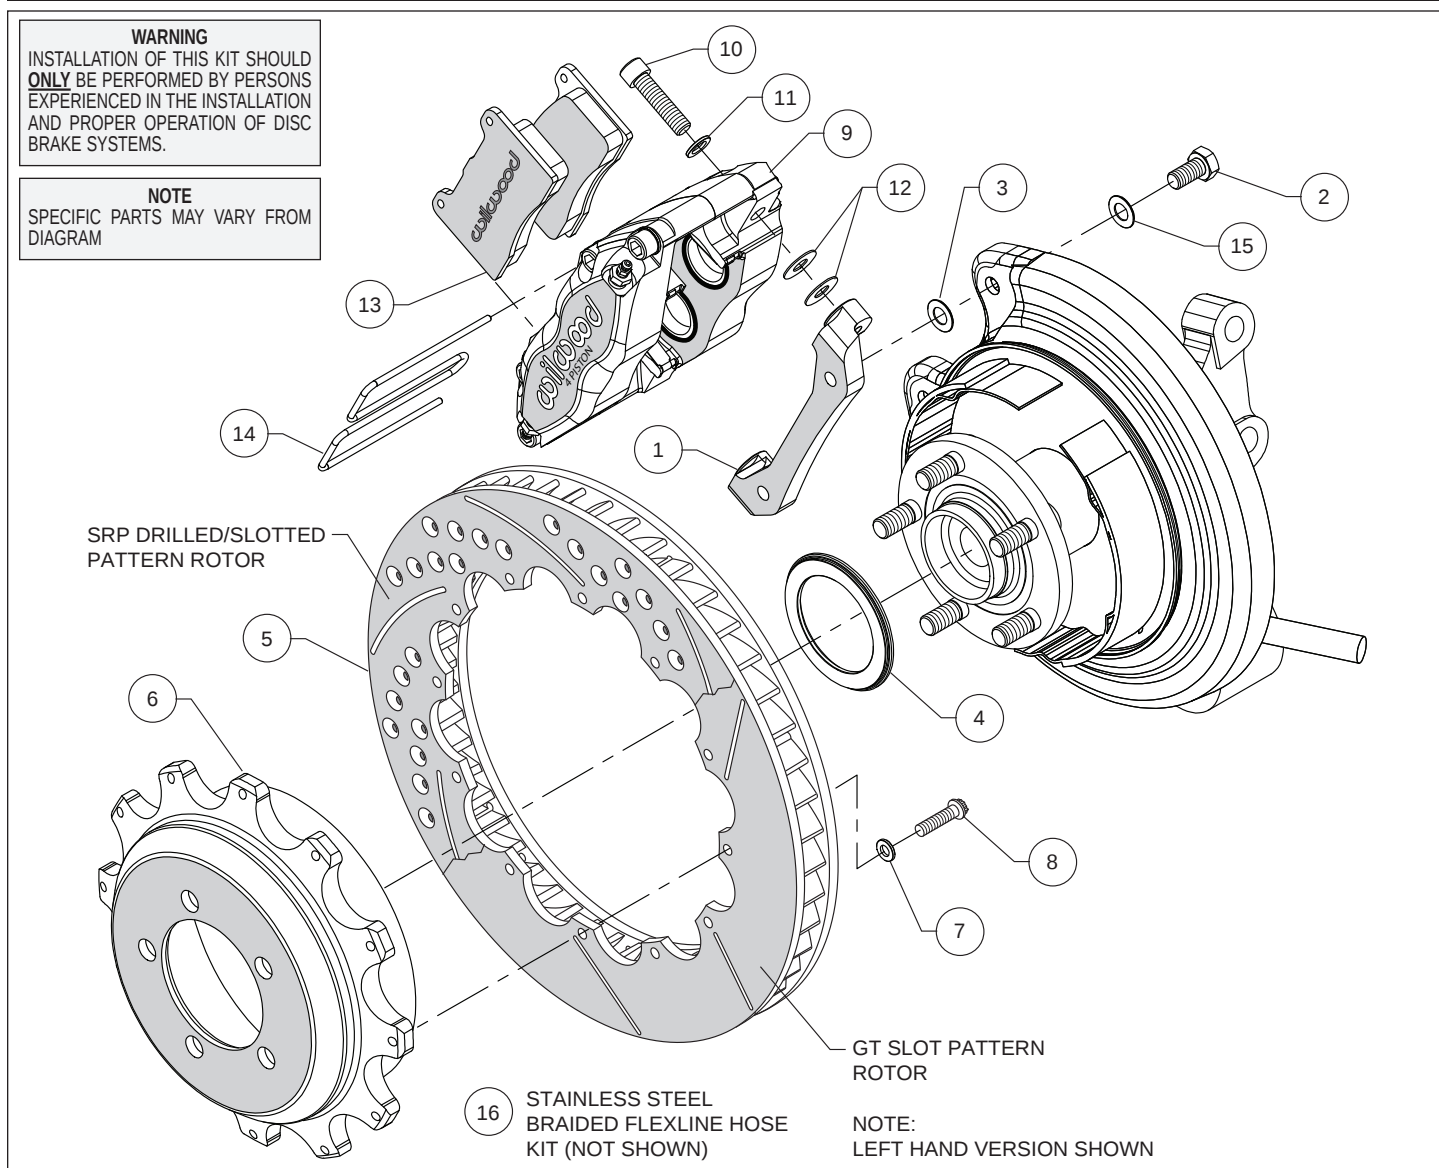
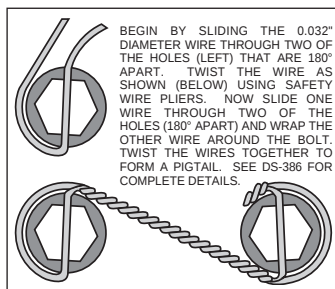

Figure 1. Typical Installation Configuration
Figure 3. Safety Wire Diagram
Assembly Instructions (numbers in parenthesis refer to the parts list and Figure 1 on the preceding pages):
- The caliper mount bracket (1) should initially be installed with clean, dry threads on the mounting bolts. Orient the bracket as shown in Figure 1 and Photo 3, and install using washers (15) and bolts (2). Initially place one shim (3) on each bolt between the bracket and upright, Figure 1. Temporarily tighten the mounting bolts. **NOTE: The bracket must fit squarely against the mount bosses on the upright.** Inspect for interference from casting irregularities, machining ridges, burrs, etc. Later, after the caliper alignment has been checked, the mount bolts will be secured using red *Loctite*® 271.
- Orient the rotor (5) and the hat (6) as shown in Figure 1 and Photo 4. Attach rotor to hat using bolts (8) and washers (7). Using an alternating sequence, apply red *Loctite*® 271 to the threads, and torque to 140 **in-lbs**. For an added measure of security, the bolts may be safety wired using standard 0.032 inch diameter stainless steel safety wire as shown in Figure 3. Please refer to Wilwood's data sheet DS-386 (available at www.wilwood.com/Pdf/DataSheets/ds386.pdf) for complete safety wire installation instructions.
- Slide the rotor registration adapter (4) onto the axle register on the axle hub with the smaller O.D. facing outward, Photo 5. Slide the hat/rotor assembly onto the axle hub. **NOTE: The hat must fit flush against the axle hub flange or excessive rotor run out may result.** Install three lug nuts (finger tight) to keep the hat/rotor assembly in place while continuing with the installation.
- Mount the caliper (9) onto the bracket (1) using bolts (10) and washers (11), Figure 1. Initially place two .035" thick shims (12) on each bolt between the caliper and bracket as shown in Figure 1 and Photo 6. Temporarily tighten the bolts and view the rotor through the top opening of the caliper. The rotor should be centered in the caliper, Photo 7. If not, adjust by adding or subtracting shims (3) between the bracket and the upright. Once the caliper alignment is correct, remove the bracket mounting bolts one at a time, apply red *Loctite*® 271 to the threads, and torque to 35 ft-lb.
- Install the disc brake pads (13) into the caliper, with the friction material facing the rotor, as shown in Photo 8. Check that the top of the brake pad is flush with the outside diameter of the rotor, Photo 9. If not, adjust by adding or subtracting shims (12) between the caliper and the bracket. After the caliper pad height